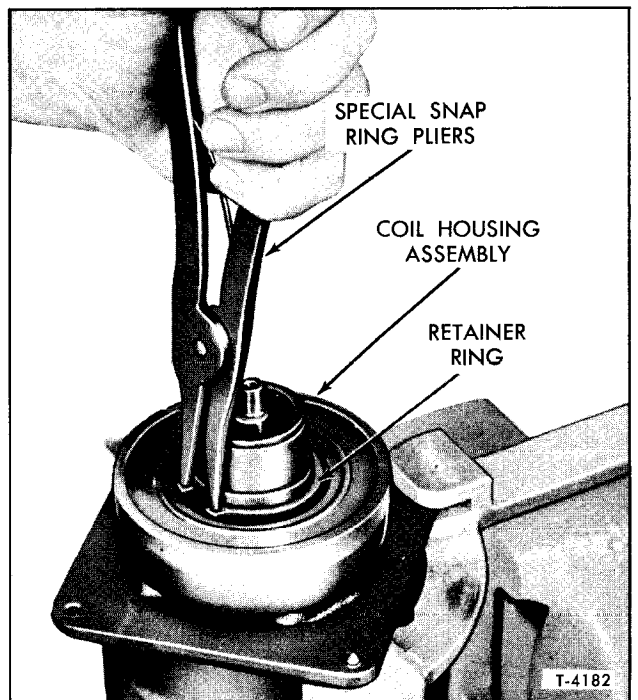

Figure 41-Removing Coil Housing Retainer Ring
3. Using snap ring pliers (J-6435), remove the coil housing retainer ring (figure 41).